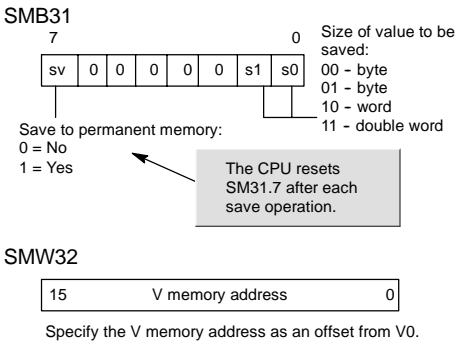

Figure 4-17 SMB31 and SMW32
Special Memory Byte 31 (SMB31) commands the S7-200 to copy a value in V memory to the V memory area of permanent memory. Special Memory Word 32 (SMW32) stores the address location of the value that is to be copied. Figure 4-17 shows the format of SMB31 and SMW32.
2. Load the size of the data in SM31.0 and SM31.1, as shown in Figure 4-17.